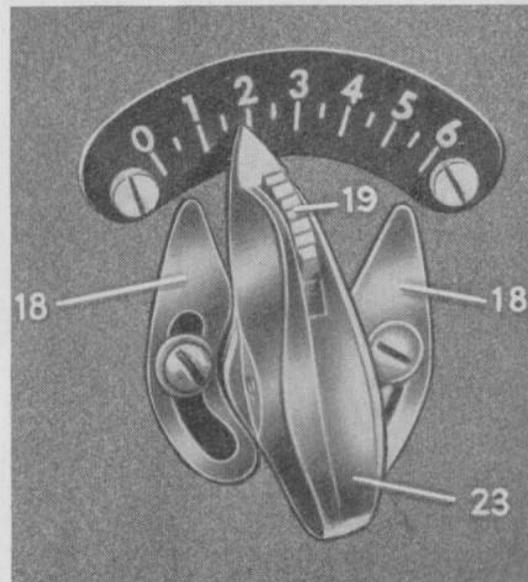

FIG. 21
Setting the zig-zag regulating knob (23), fig. 21, to any other dial marking but "0", will produce a zig-zag stitch. The width of this zig-zag
Whenever it is desirable or necessary to duplicate an exact width of zig-zag stitch, such as in sewing buttonholes or buttons, the movement of the zig-zag regulating knob (23) can be limited by the two adjustable stops (18) shown on fig. 21.